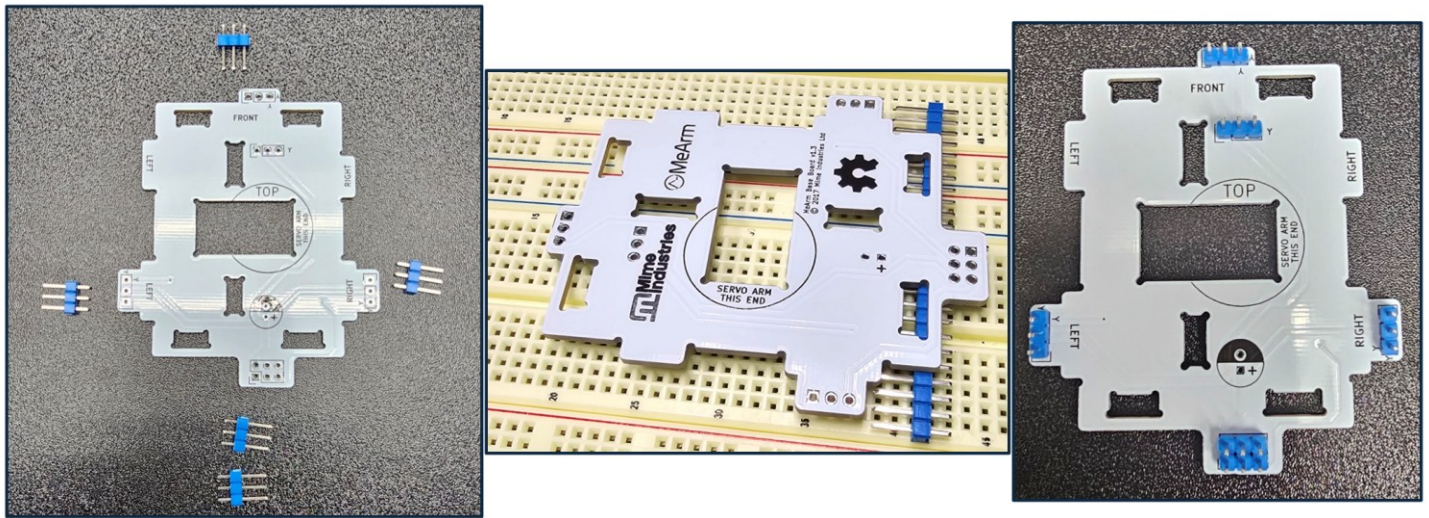

Figure 1. Soldering the MeArm Board Header Pins.
2. Solder the header pins to the board as shown in Figure 1.